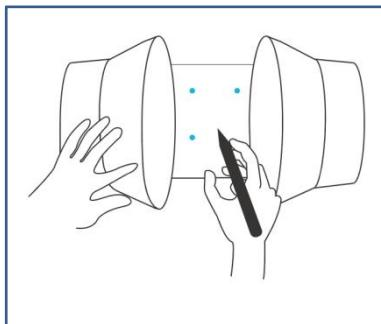

Fig.3.
- 3、Use the flange bracket to set your desired fan position. Mark the four mounting holes.See the (Fig.3.)